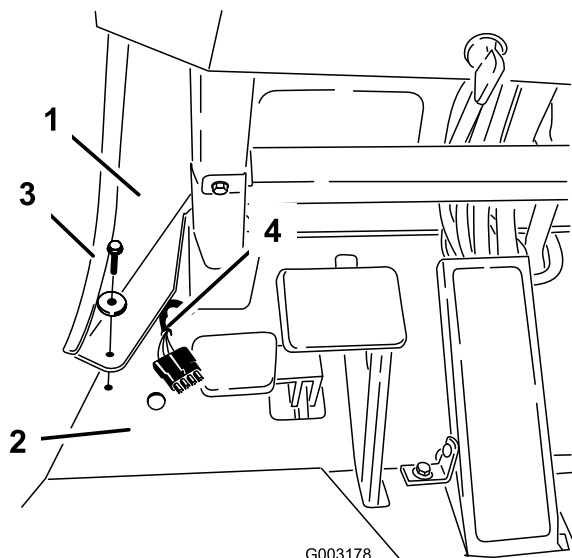

Figure 1
3. Remove the bolt securing the left side of the front hood to the floor pan to allow the existing floor switch wiring to be brought above the floor pan (Figure 1).